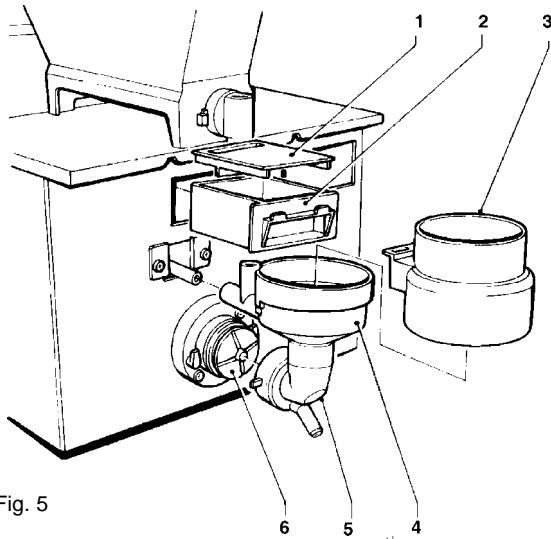

Fig. 5
- remove the powder and the water funnels, the feeders, the powder deposit drawers and the mixer wheels from the mixers (see Fig. 5);